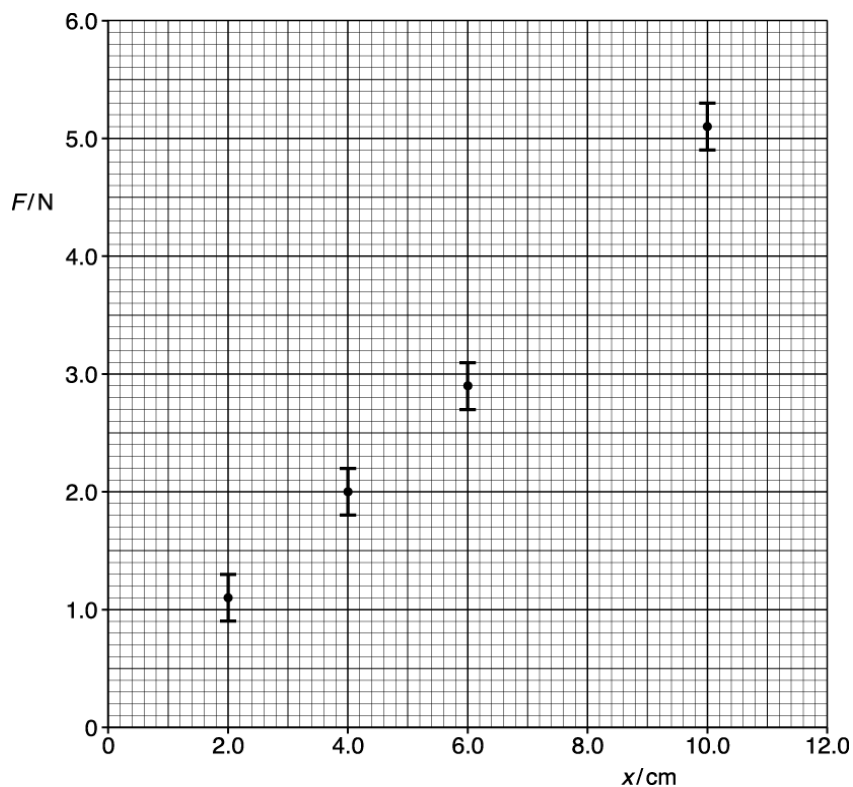

Fig. 17.2
Fig. 17.2 shows four data points from the table plotted on a  $F$  against  $x$  graph.
- i. Plot the missing data point and the error bar on Fig. 17.2.
- iii. Draw the best fit and the worst fit straight lines on Fig. 17.2.